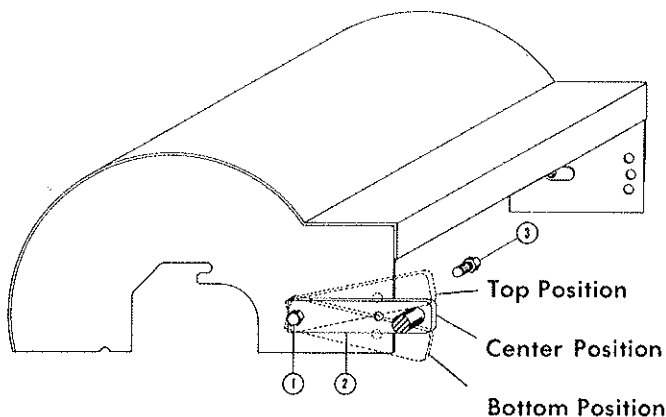

Fig. 6
5. Wheel height adjustment. It may be desirable to change wheel height because of tine wear, knife or blade wear, or due to turf condition. This is accomplished by first loosening cap screws, Item 1, Fig. 6, and then removing cap screw, Item 3, Fig. 6, and pivoting wheel and axle assembly up or down to next hole. There are three wheel positions. Retighten both cap screws in each axle weldment. In changing wheel position, it is necessary to readjust front roller. Follow instructions on front of machine. See paragraph 4 of operating instructions. **DO NOT USE FLAIL REEL WITH AXLE SET IN TOP POSITION.**